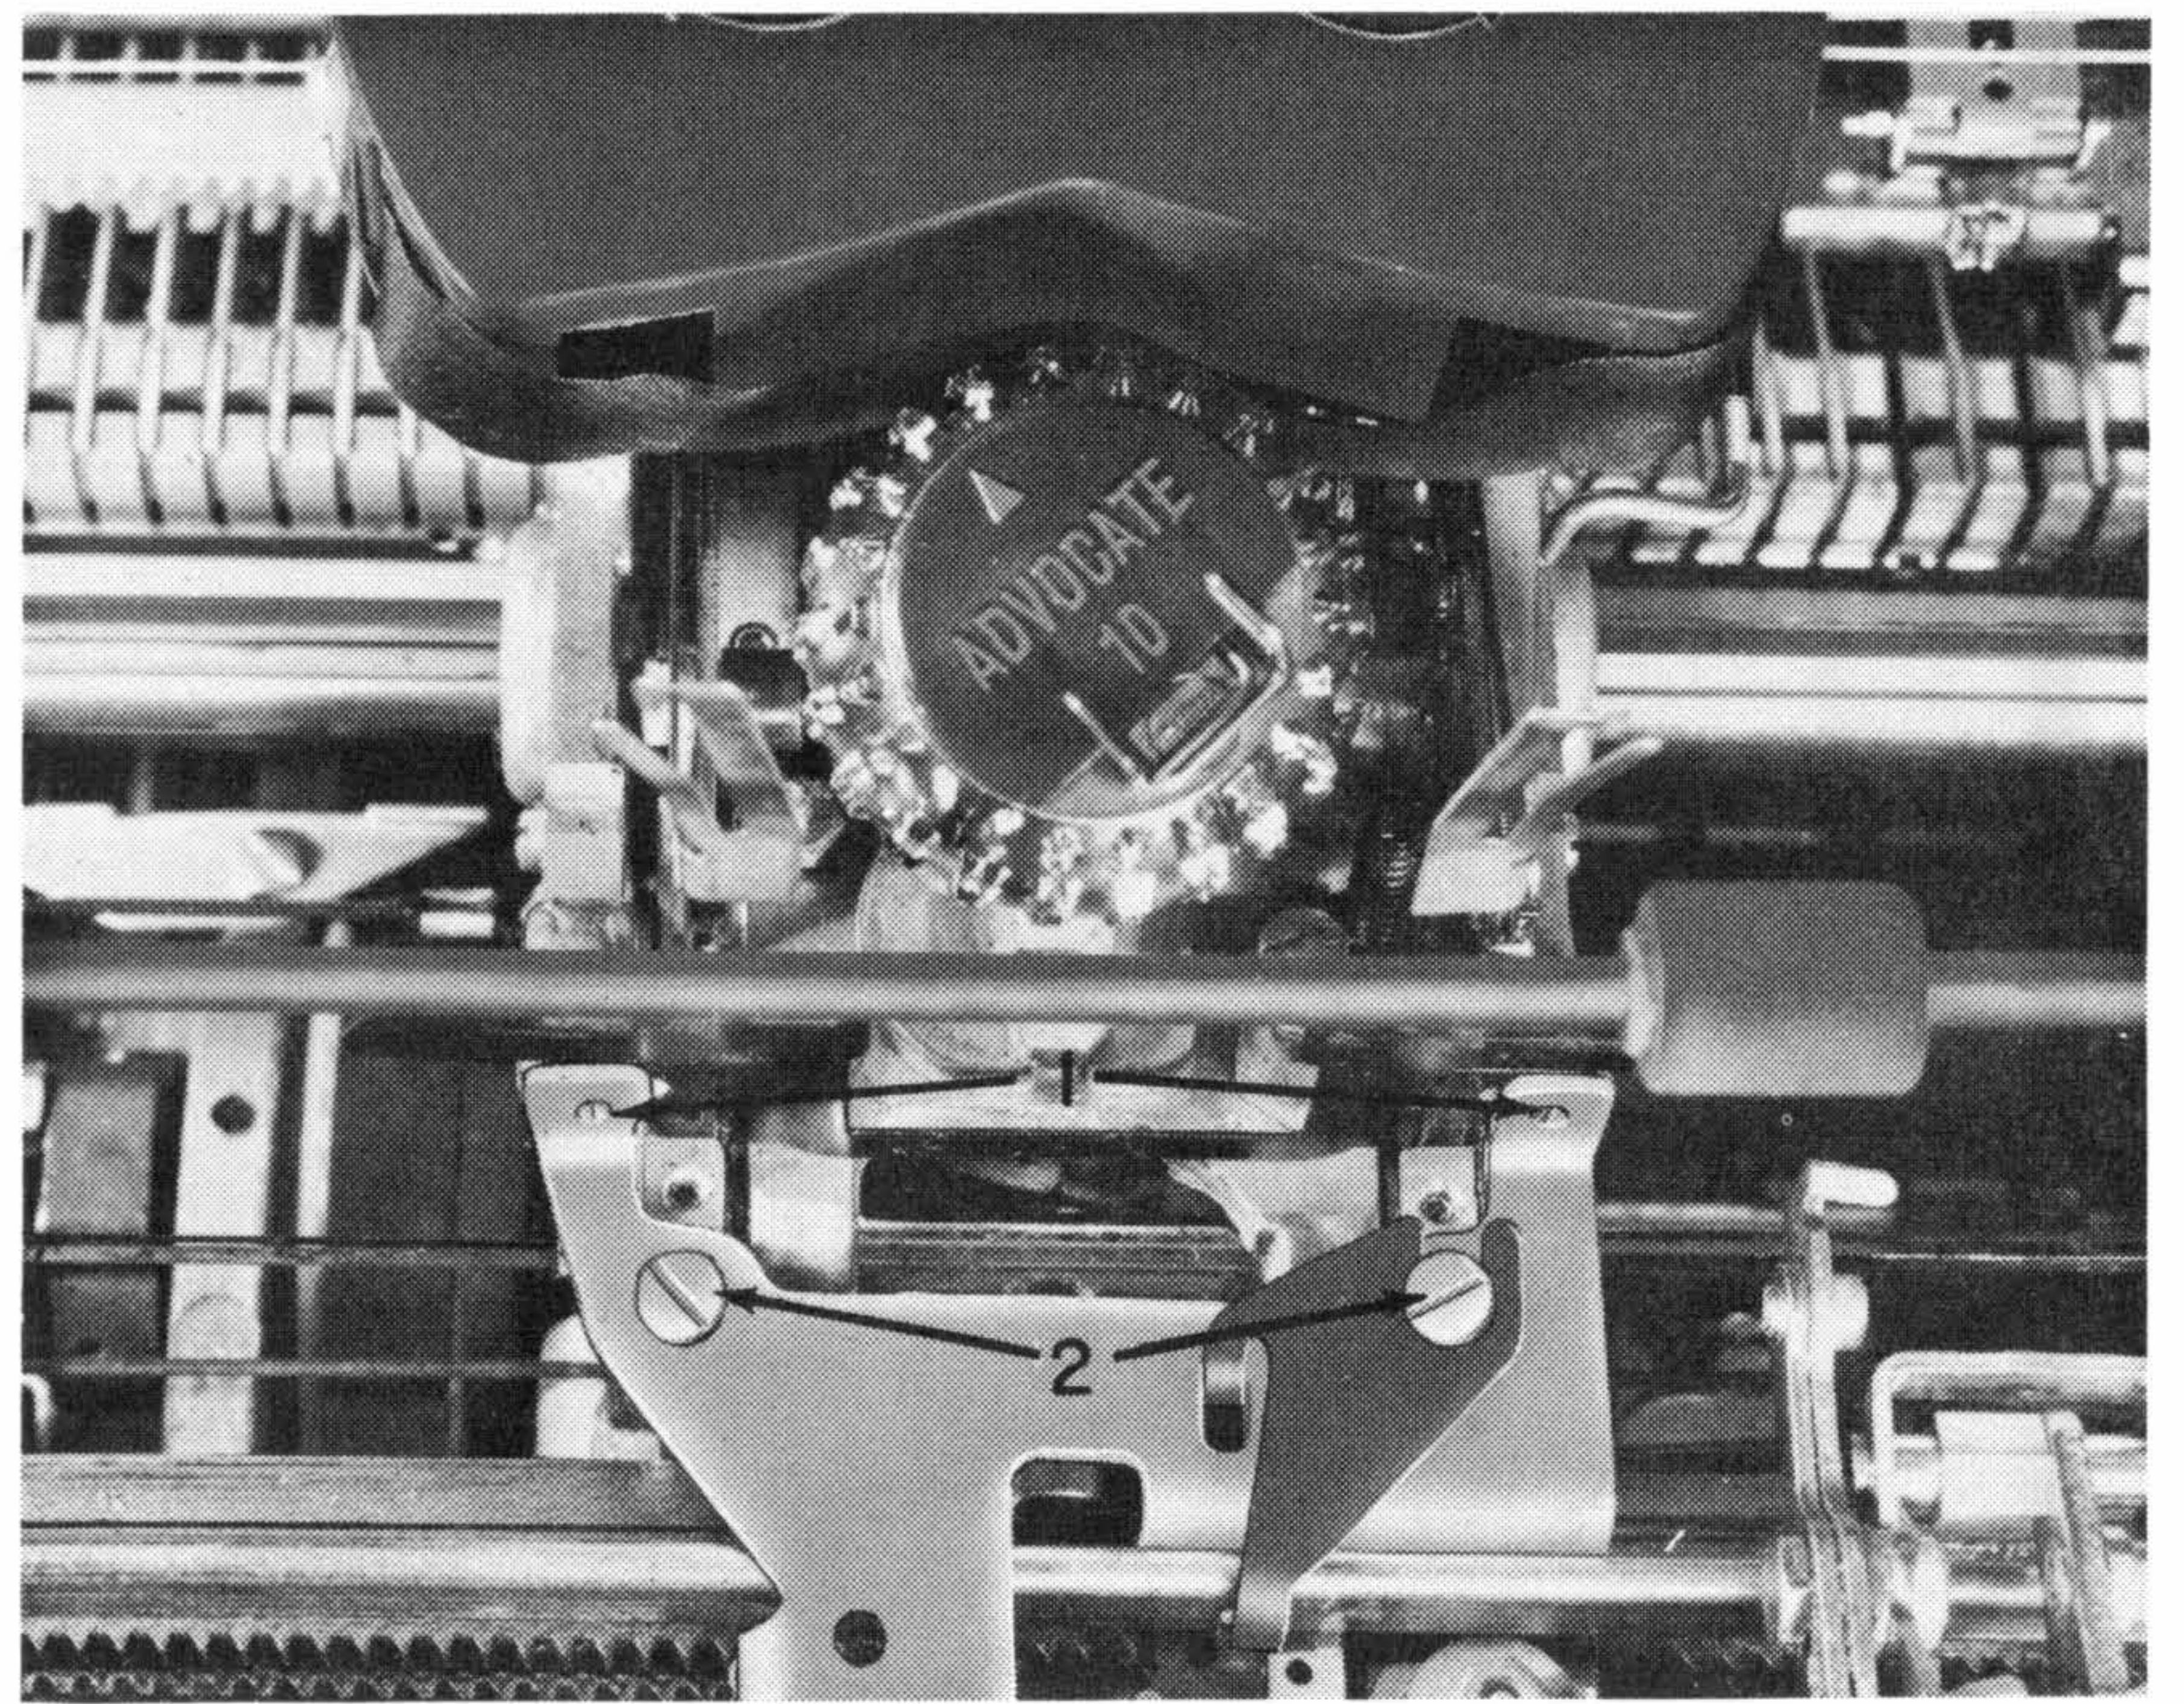

Figure 52. Carrier Shoe Removal
1. Remove the two card-holder screws (#1, Figure 52).
2. Remove the two escapement-bracket screws (#2, Figure 52).